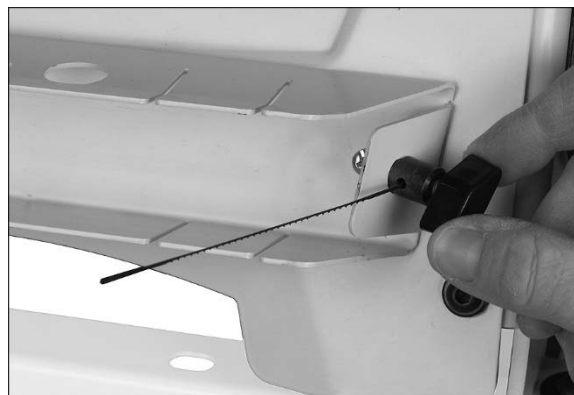

Figure 14: installing blade into holder
2. Insert lower blade holder (Figure 14) into hole in blade rack for leverage, and loosen knob.